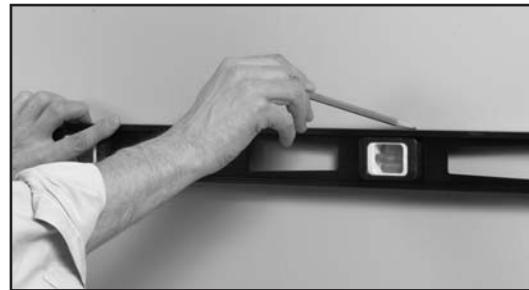

Fig. 17 – Use a level to establish vertical and horizontal lines.
- Place the level over the center point and mark the wall with a pencil continuing the entire length of the wall (Fig. 17).